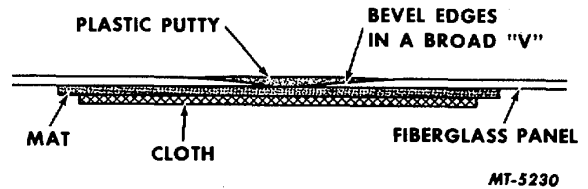

Fig. 5
1. Remove loose material and grind to a broad "V" (Fig. 5). Clean inner panel also.
4. Mix a fresh supply of plastic putty and apply over the outside surface filling the large "V" like valley (Fig. 5). Before the plastic putty cures, remove the bolt and washer (if used) from the outside and fill the hole with putty and allow to cure.